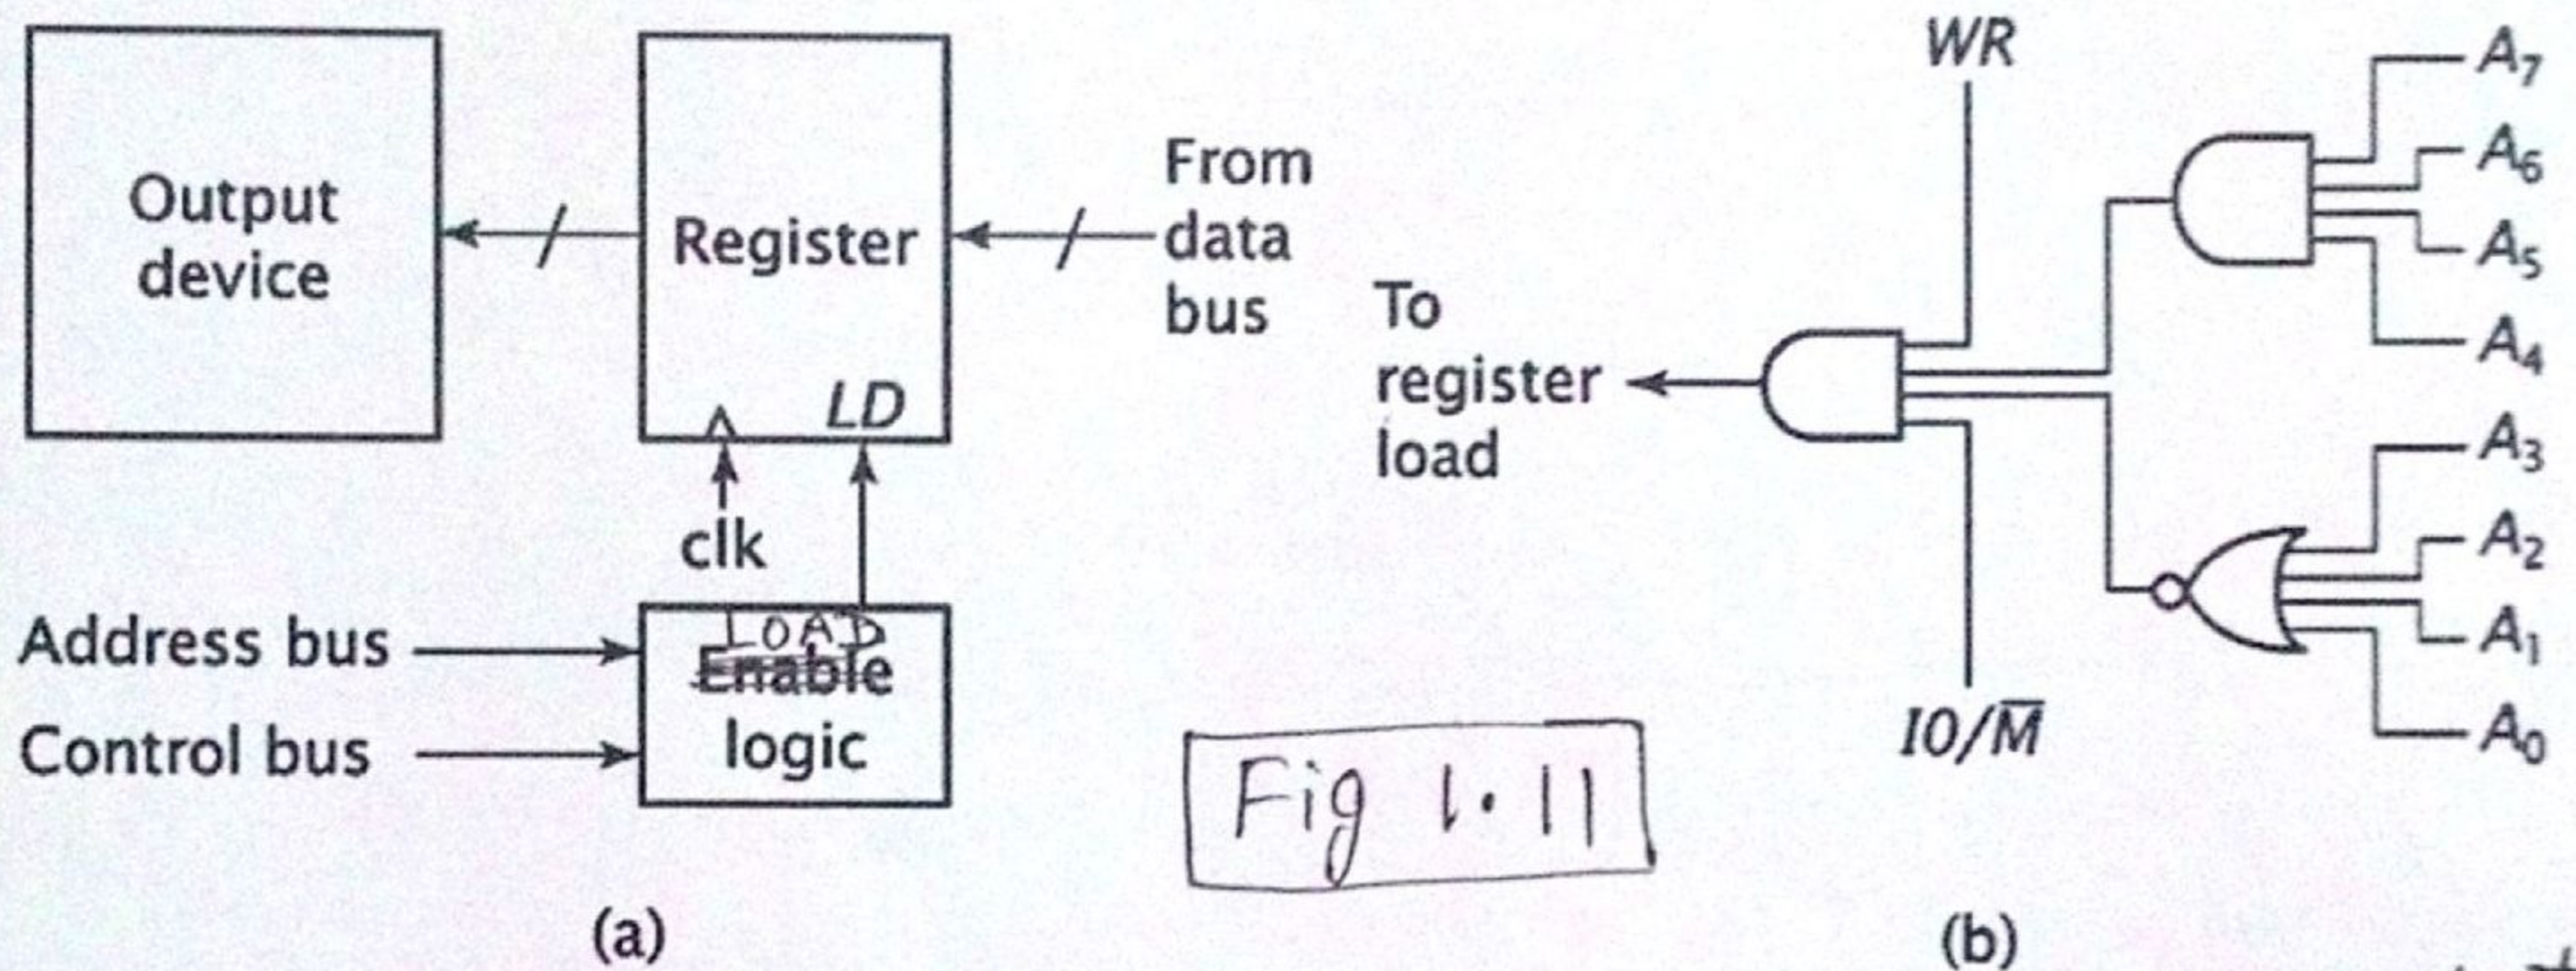

Fig 1.11
- The logic to generate the load signal for an o/p device at address 1111 0000 is shown in Fig 1.11 b